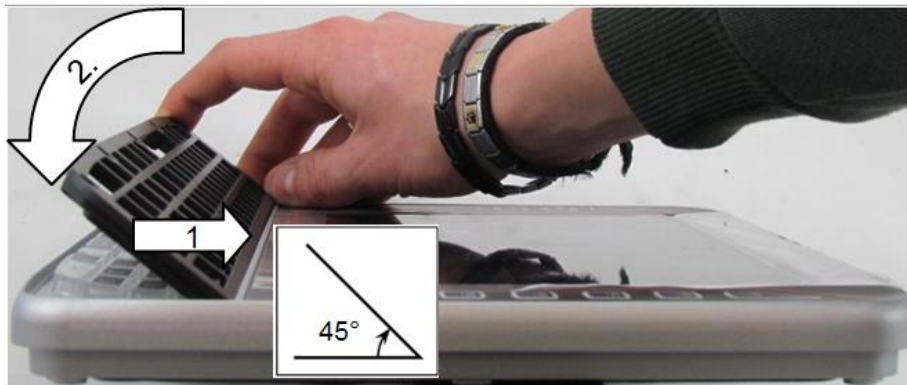

Fig. 16.5: Integrated keyboard: Attach keyboard grid
- Place on the keyboard grid at a 45° angle, see Fig. 16.5.